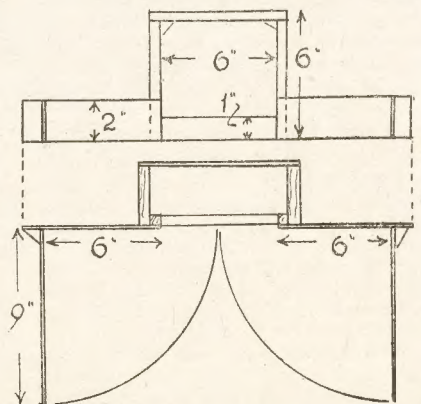

Fig. 4—Goalposts fitted with side wings
The sides (D) of the cab are next to be made, and Fig. 4 gives all the dimensions necessary for drawing one out on ½ in. wood. It should be laid on a second piece of ½ in. stuff and a pencil line made all
A suggestion for such goalposts is sketched at Fig. 4. The posts are cut from